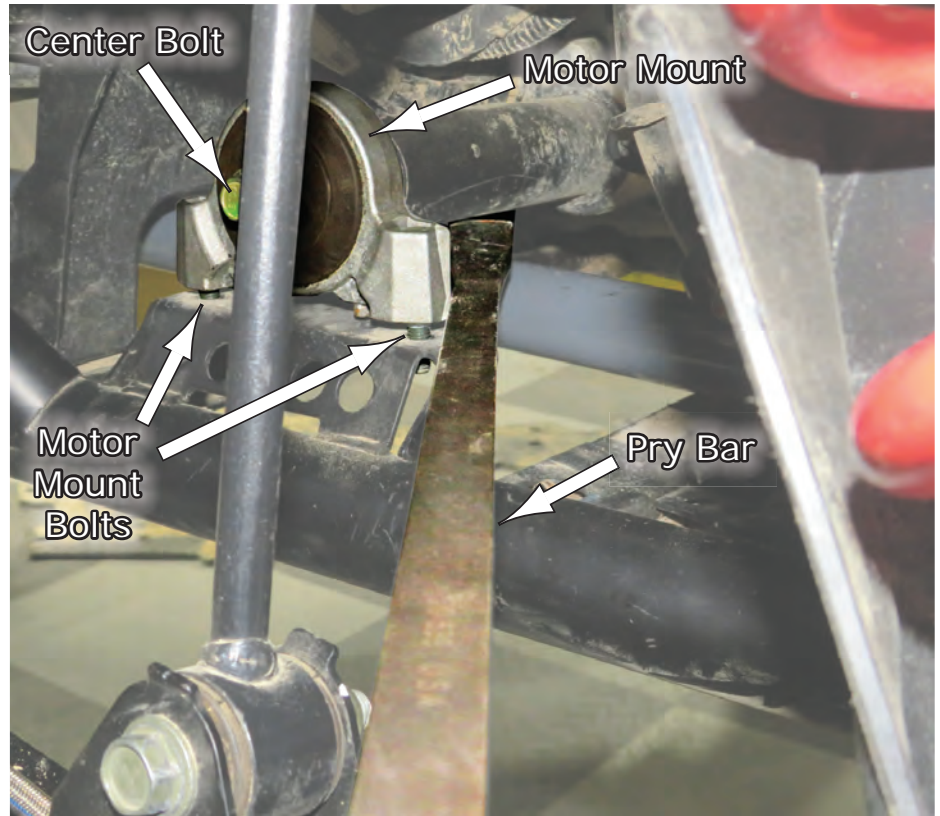

Fig.11
11. In order to get the **Rear Prop Shaft** out and the new one in, you will need to raise the engine a little to make some room for removal and to make life a little easier for you. To do this, you will need to remove the **Driver's Side Motor Mount** by removing the **Center Bolt** and the bolts on each side of it. **Fig.11** shows the location of it and the bolts to remove.